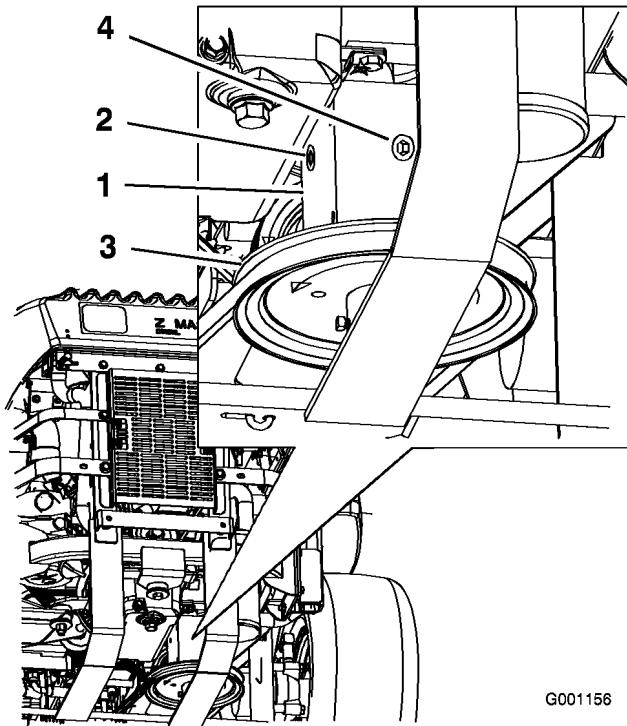

Figure 52
4. Remove the side or rear plug on the gear box. (Figure 52).